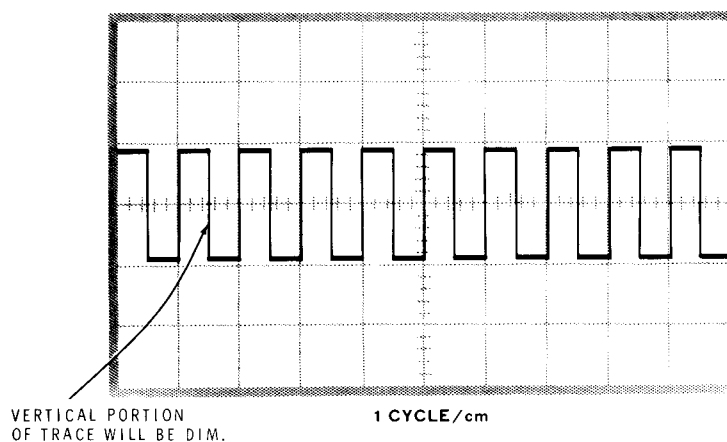

Figure 1-2
- () Adjust the trigger and stability control on your oscilloscope to obtain a waveform similar to the waveform in Figure 1-2.
- () Turn the VOLTS OUT switch through each of its positions. You should obtain a waveform similar to the waveform in Figure 1-2. The signal amplitude, however, will reflect the setting of the VOLTS OUT switch. Readjust the input attenuator of your oscilloscope as necessary. **WARNING:** To avoid a possible shock, do not touch the Volts Out signal when the VOLTS OUT switch is in the 100V position.